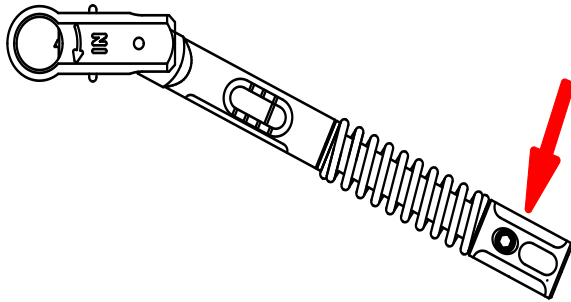

Figure 2
- The pressure point for accurate torque release is only on the handle of the adjusting nut (see arrow in **Figure 2**).